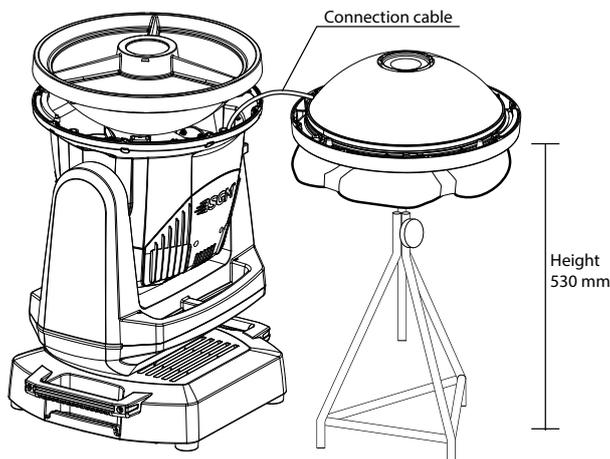

Figure 24
- Place the front ring with the lens facing down over the elevated flat, clean and scratch-free surface. Notice that the electrical wire connecting the light source to the head is short and located left of the tilt lock (figure 24). Avoid touching the reflector, and cover it with a dust-free cloth.
4. The gobo is held in place in the gobo holder by a conical retaining spring. Unhook the end of the spring and pull the gobo out (figure 24).